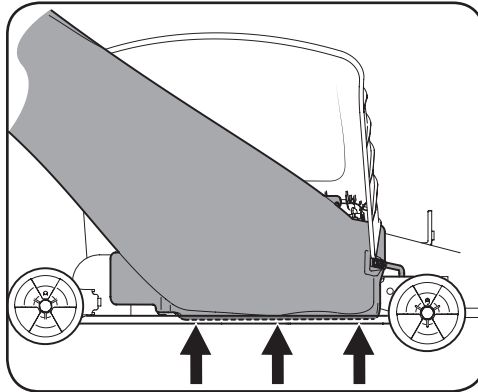

Figure 4-19
**Important!** Be certain that the bottom of the discharge chute is located inside of the lip of the deck opening, as shown in Figure 4-19.